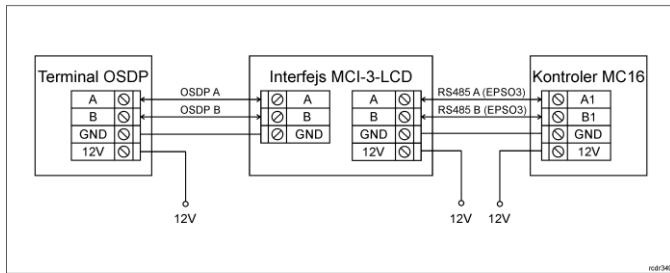
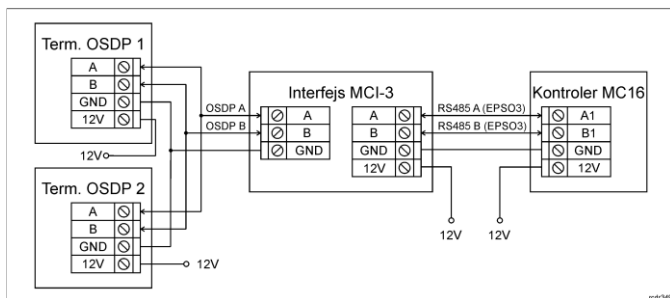

Fig. 4 Connection of MCI-3-LCD interface to OSDP reader and MC16 controller
Fig. 5 Connection of MCI-3 interface to OSDP readers and MC16 controller
1. Disconnect power supply and connect OSDP terminal(s) to MCI-3 interface (fig. 4/5)
- If devices are not supplied from the same power supply, then according to fig. 4 and fig.5 their GND terminals must be connected with any wire.